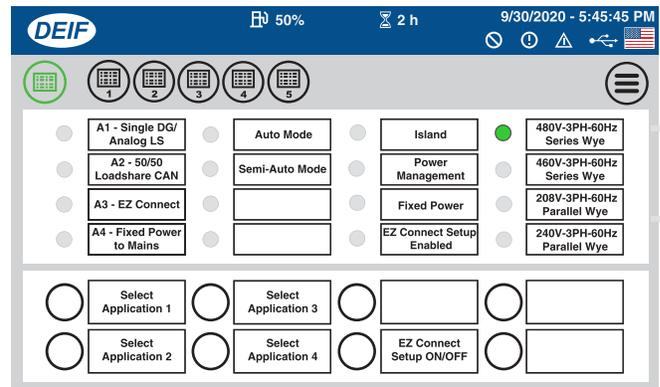
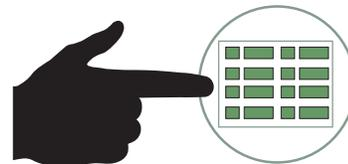

Figure 154. Main AOP Screen
Figure 155. Main AOP Button
- Verify that the **Main AOP screen** (Figure 154) is displayed.
- If the Main AOP screen (Figure 154) is not displayed, press the **Main AOP button** (Figure 155).